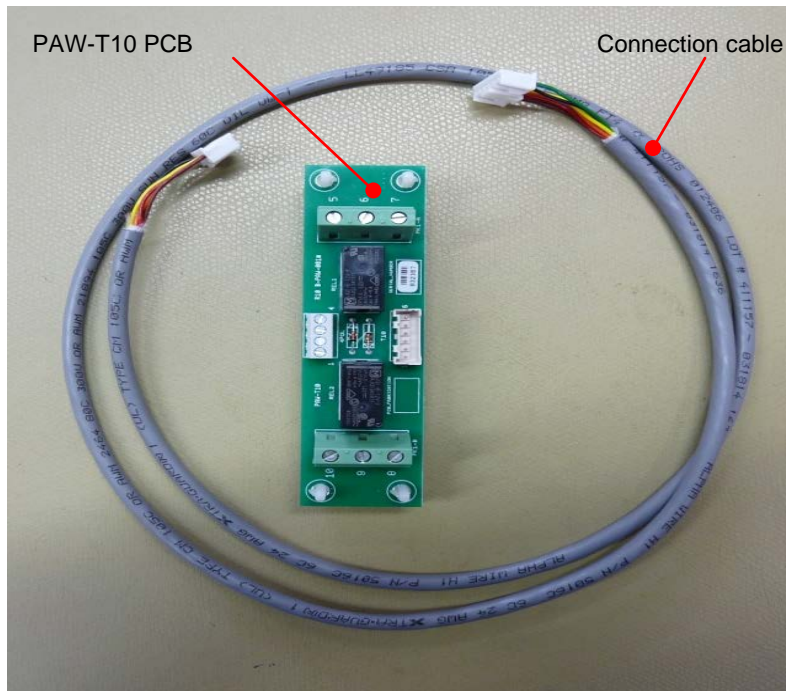

Fig. 1-1
1. Install the PAW-T10 PCB (see Fig. 1-1) to each individual controlled indoor unit or to one single unit of each group (master or slave) by inserting the PCB holder into the appropriate holes.
2. Plug the supplied connection cable (see Fig. 1-1) into the T10 socket on the indoor unit main PCB (CN061, yellow) and into the T10 socket on the PAW-T10 PCB (T10, white).